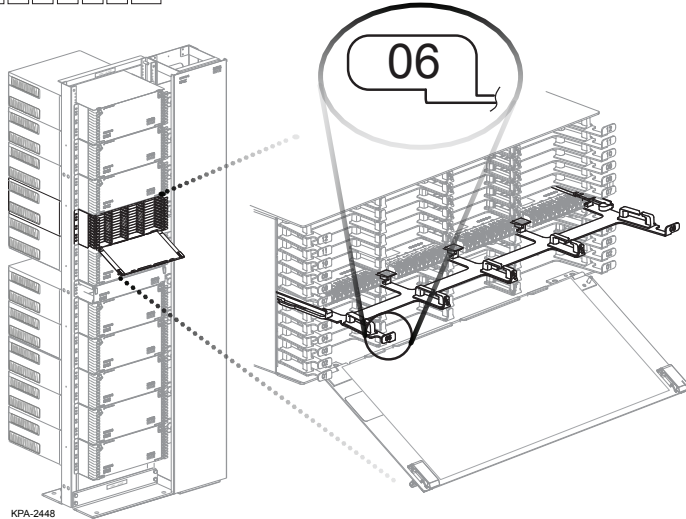

Figure 27 — Housing/Chassis Label Location
Step 2: Housing/Chassis Location (Figure 27)